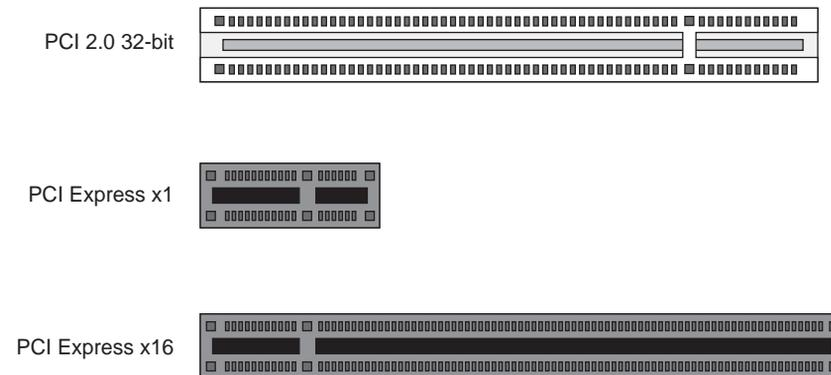

Figure 7-8 Comparison of PCI/PCI-X Connector with PCI Express Connectors
- PCIe hardware connectors are not compatible with PCI/PCI-X (see Figure 7-8)